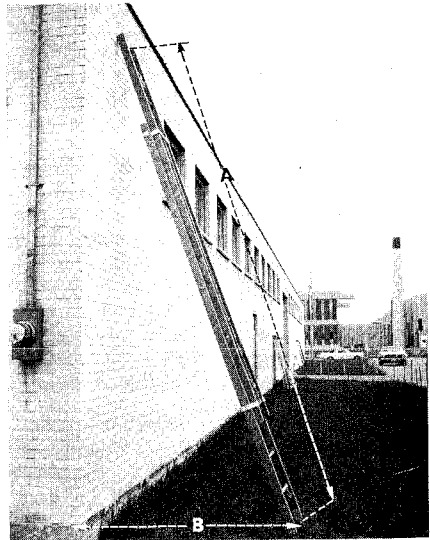

Fig. 2 — Ladder Placed Against Wall
5.01 Use care in positioning ladders before climbing them. Place the foot of the ladder on the ground or other firm support so that distance B (Fig. 2 and 3) from the base of the ladder to a line extended vertically from the top support is approximately one-fourth of the length of the ladder measured from top support to bottom support. If distance B is greatly exceeded, there is a danger of imposing excessive stresses on the ladder. If distance B is considerably less than one-fourth of distance A, the ladder will be pitched so steeply that the work cannot be done safely. In any case if the base of the ladder is likely to slip, the ladder shall be braced, fastened, or securely held.